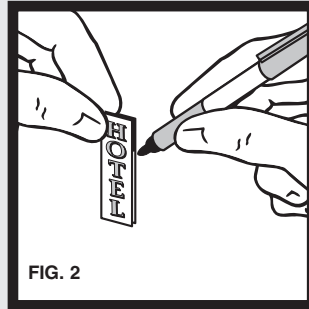

FIG. 2
- Blacken white edges of plastic backing with a marker (**Fig. 2**).